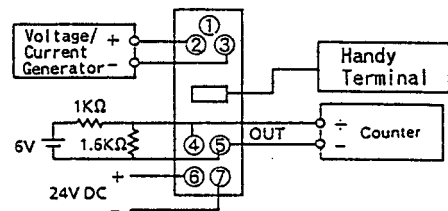

Fig. 10: Wiring of Calibration Equipment
- ① Connect each equipment as shown in Fig. 10.
- ② Input/output characteristic check